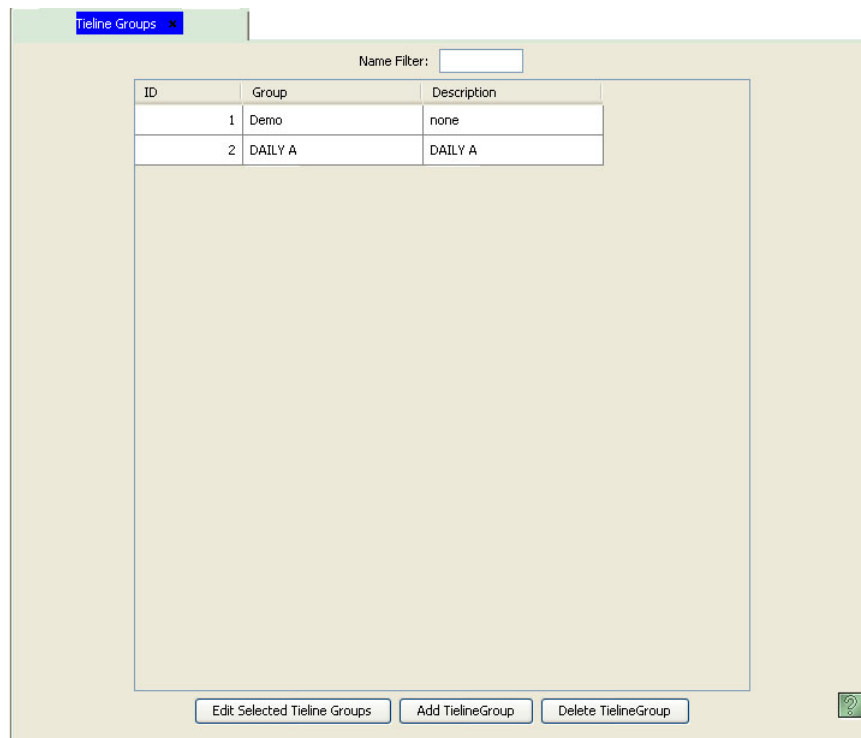

Figure 16-31. Tieline Group Page
- 1 From the Navigation area, select the 'Configuration' pane and then 'Tieline Groups'. The 'Tieline Groups' page displays, as shown in Figure 16-31. All tieline groups currently defined in the system are listed.